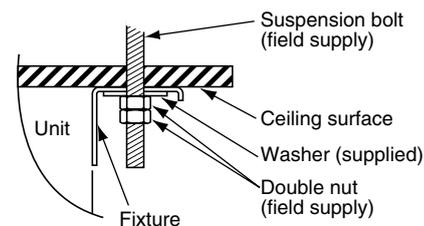
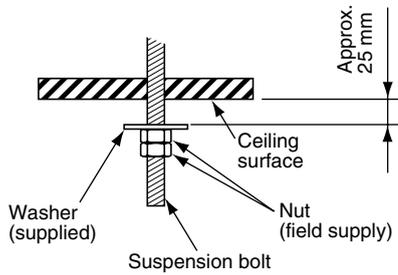

Fig. 3-43
Fig. 3-45
- (6) Carry out the preparation for suspending the indoor unit. The suspension method varies depending on whether there is a suspended ceiling or not. (Figs. 3-43 and 3-44)
- (7) Suspend the indoor unit as follows:
- a) Mount 1 washer and 2 hexagonal nuts on each suspension bolt. (Fig. 3-45)